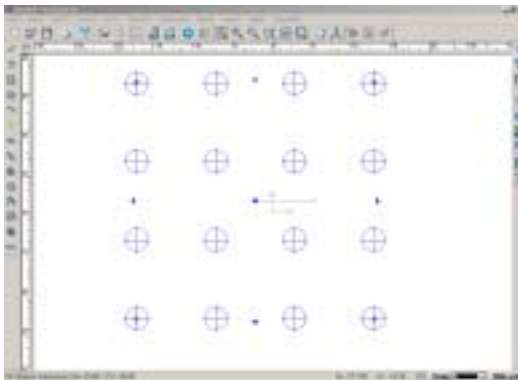

Fig. 10-36
2. Select all the points, and click on the shortcut icon  or click tool path->simple drilling in the menu bar. Then a dialog is shown. (Fig. 10-3) Select an end mill tool with a diameter of 3 and height of 12, set the total depth at 10, and select On Points. The result is shown in Fig. 10-36.